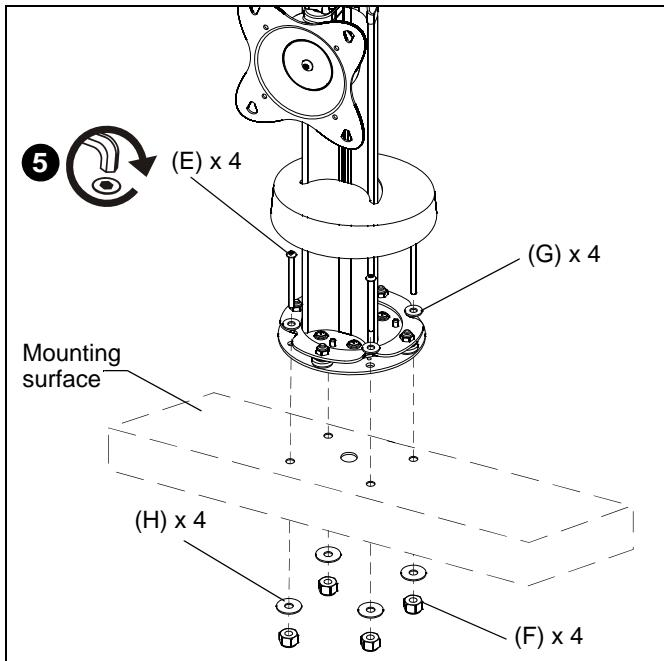

Figure 4
5. Attach STS1 to mounting surface using 5/32" hex key (L) and four 1/4-20 x 3-1/4" button head cap screws (E), four flat 1/4" flat washers (G), four 1/4" fender washer (H), and four 1/4" Nylock nuts (F). (See Figure 4)